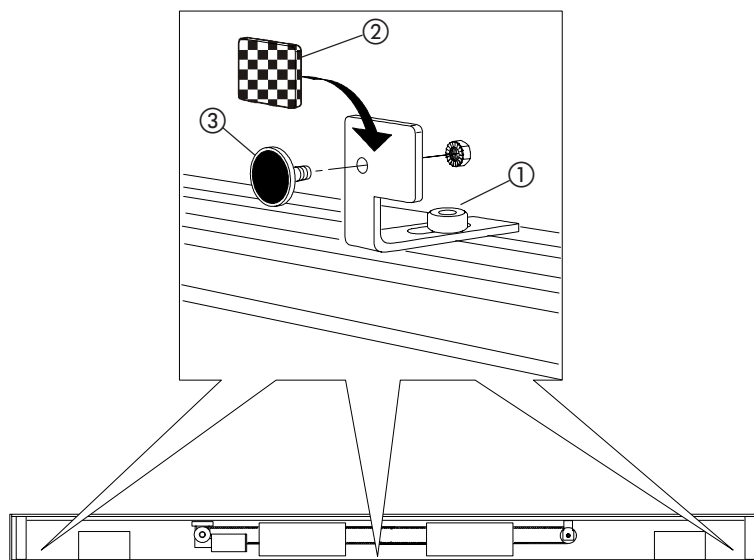

fig. 78
Install the three housing fixing brackets, using the supplied screws (fig. 78 ref. ①).
If using the standard housing securing accessories, apply Velcro on the fixing brackets (fig. 78 ref. ②).
If using the lx housing securing accessories, apply the magnets on the fixing brackets (fig. 78 ref. ③).